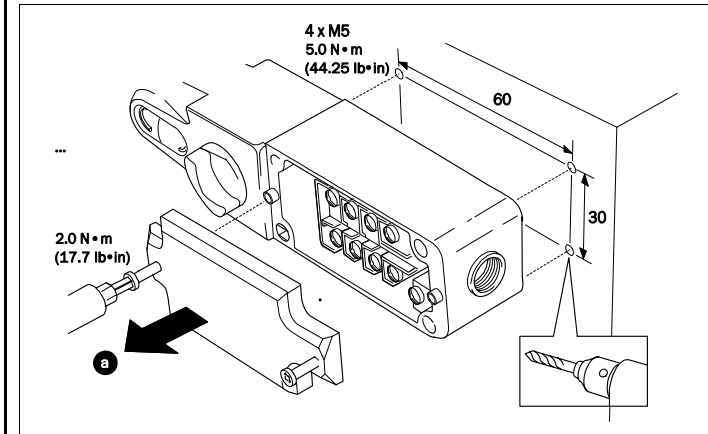

Fig. 1: Installing the switch
- Mount the rope-operated switch using 4 M5 screws (see Fig. 1).